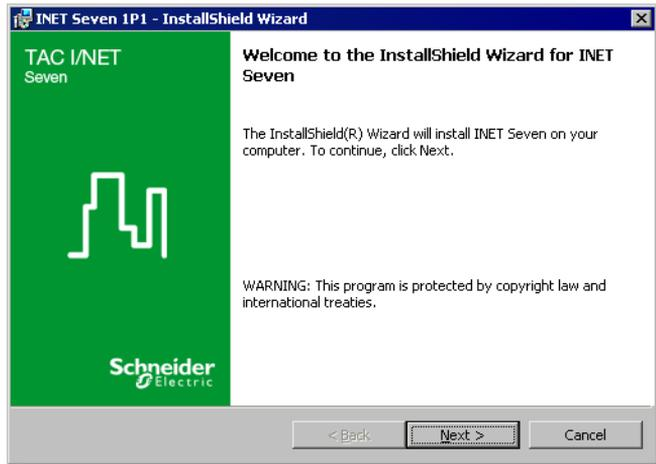

Figure 2-3. Welcome Screen
- The TAC I/NET Seven Welcome screen appears (see Figure 2-3). Review the information and click **Next** to continue.